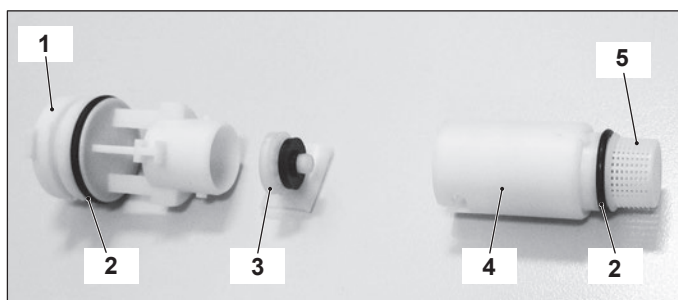

Figure 14.2
14.2 Description and location of parts - (Figure 14.2)